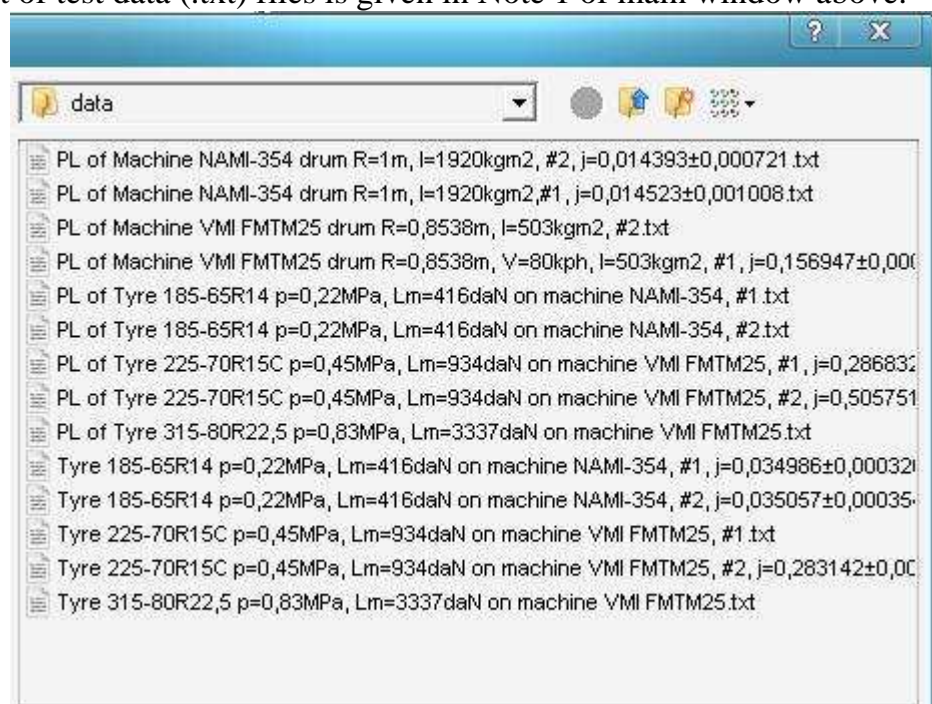

Figure 2. Window with list of experimental data files.
2. Push the button "Insert data" and choose the tyre from opened file list (figure 2). This file list is given as example and proposed for study with program features, but user also may load self-made test file from any directory.